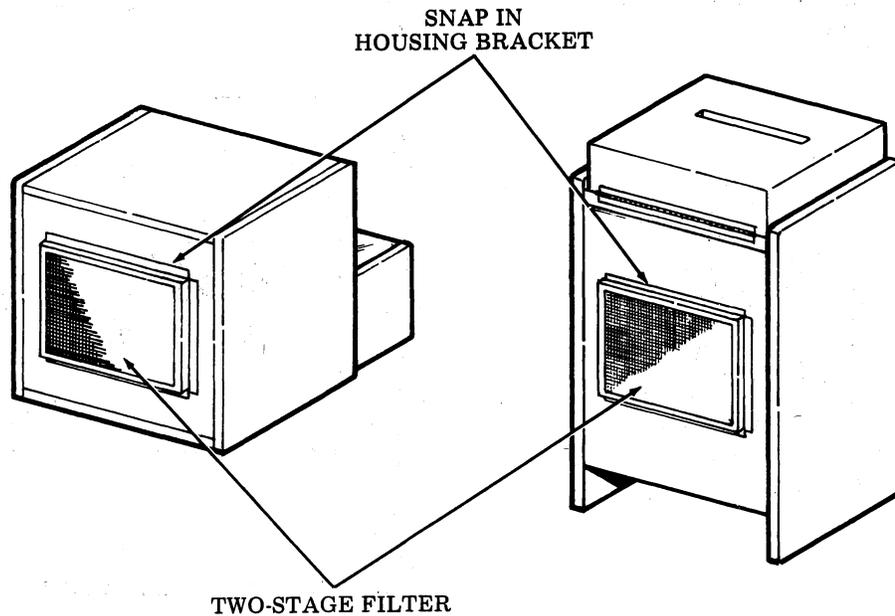

Fig. 15
6.07 The 10 x 16 inch two-stage filter assembly may be removed by removing the snap in housing bracket located in rear of enclosure (Fig. 15.)